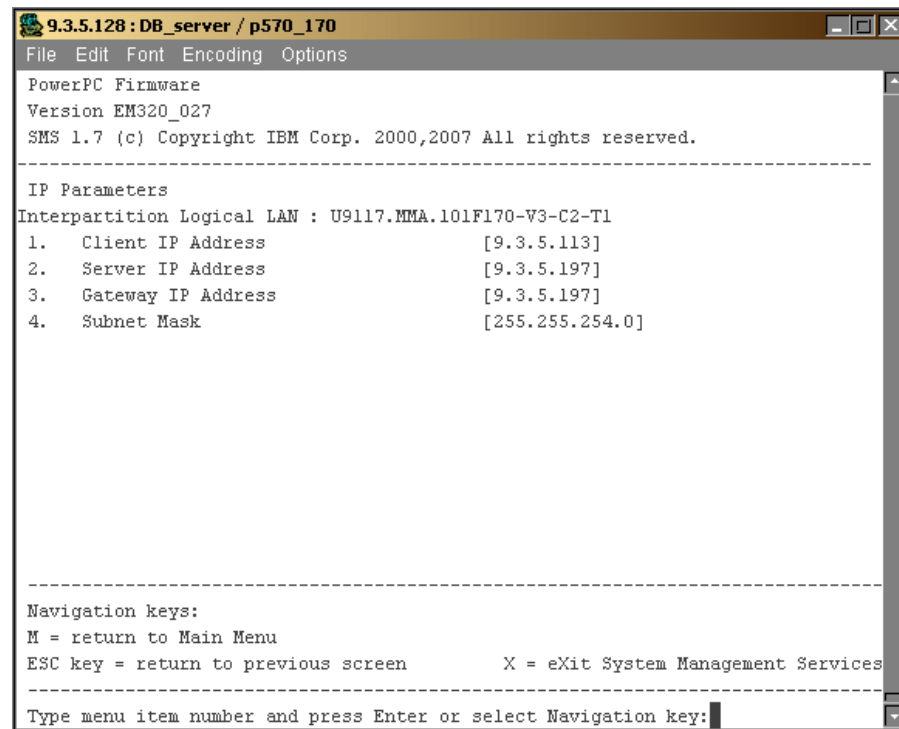

Figure 13-19 IP settings
5. Choose option **1** for IP Parameters, then go through each of the options and supply the IP address, as shown in Figure 13-19.